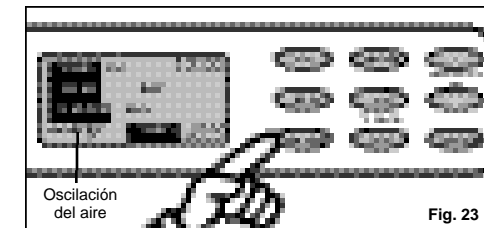

Fig. 23
4) Press the **SWING** key to activate the automatic air swing (oscillating) feature, (the "air swing" symbol will appear in the **LCD** window). *Fig. 23*. To deactivate the air swing feature, press the **SWING** key again.